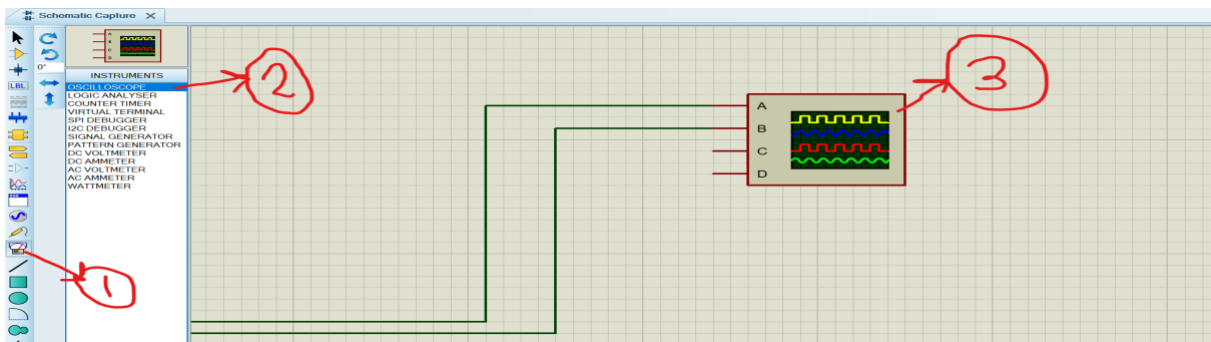

Figure 1: Instructions to import the digital oscilloscope instrument in Proteus software.
- 1- First, you should press the button for the “Instruments” to display the different instruments in the Proteus software (Figure 1).
- 2- Under the Instruments, you will choose the “Oscilloscope” to add to your project (Figure 1).
- 3- You can see the oscilloscope in Figure 1. It contains four channels. You can use whichever of them you want to display your results. In this scheme, channels A and B are connected to the microcontroller’s corresponding ports to display the waveforms.